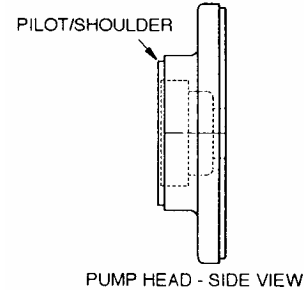

Figure 1
1. Remove the bearing cover (27) and gasket (26) from the **inboard** end of the pump. Discard the gasket.
2. Inspect the pump head to verify it is machined with the necessary pilot/shoulder for adapter alignment, as shown in Figure 1. **NOTE:** The head must be replaced if it is not machined with a pilot/shoulder—consult factory.